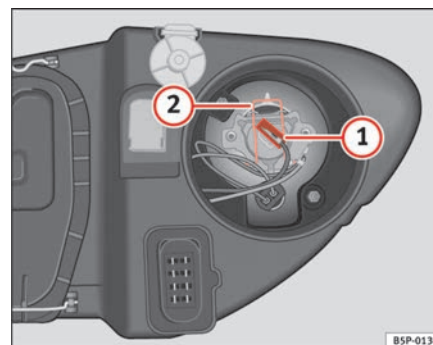

Fig. 181 Main beam headlights
- Remove the connector ⇒ fig. 181 ① from the bulb.
- Press the spring ⇒ fig. 181 ② inwards and to the right.